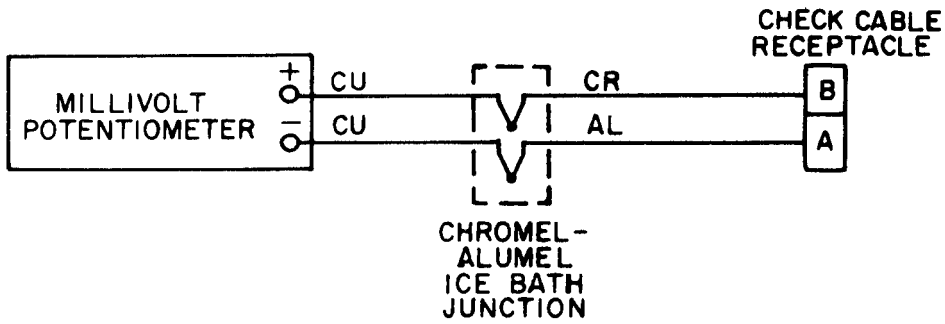

Figure 4-1. Temperature Indicator Test Setup.
(1) Make the test setup of figure 4-1.
(2) Place T/C INPUT switch in CHECK CABLE position.
(3) Turn FUNCTION SELECT switch to TRIM.
(4) Turn TEMPERATURE switch to CAL 600° C and adjust CAL ADJ pot until the temperature indicator reads 600° C.
(5) Turn TEMPERATURE switch to OPERATE.
(6) Using temperature vs emf values in table 4-1 or other values equivalent to those in NBS Circular 561 for a chromelalumel thermocouple, check the accuracy of the temperature indicator throughout its range (0° to 1399° C).
(7) The displayed temperatures shall agree with the test signals + 2° C.
- (1) Make testsetups of figures 4-1 and 4-2.
- (2) Turn TEMPERATURE switch to OPERATE, RPM switch to N1, STD DAY switch to ON, FUNCTION SELECT switch to TRIM, and place T/C INPUT switch in CHECK CABLE position.
- (3) Using 16.398 mvdc and 63 Hz as inputs (table 4-2), set AMB TEMP potentiometer to different settings in table 4-2 and check readings of temperature and % rpm displays against readings in table.
- (4) Readings of the TEMP °C display shall not differ more than + 3-1/2° and readings of the % RPM display shall not differ more than + 0.5% rpm from the corresponding values in the table.